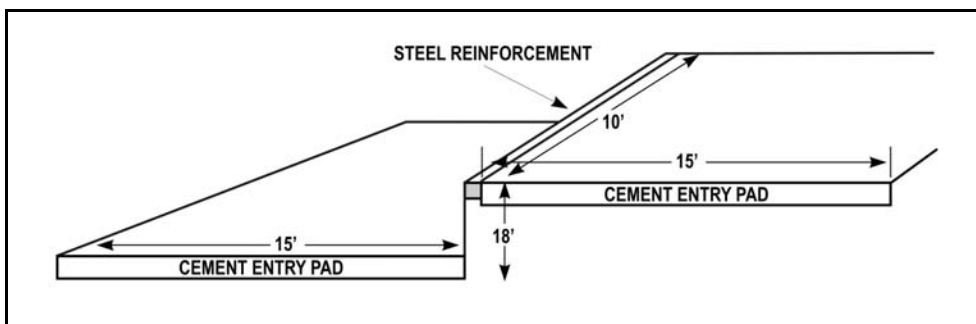

Figure C-4. Step-up/wall (example).
- Minimum of one (1) step-up/wall (Figure C-4). Four feet across, 3 feet deep, 10 feet wide with Concrete, steel reinforced edges.